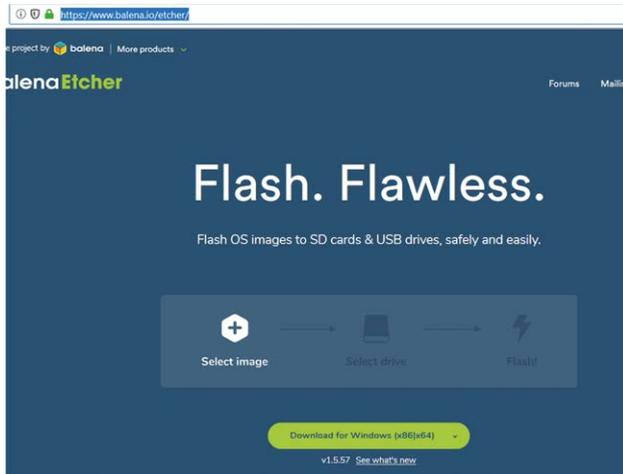

Figure 3.4 Download Etcher
- Download the Etcher program on your PC to flash the disk image. The link is (see Figure 3.4):